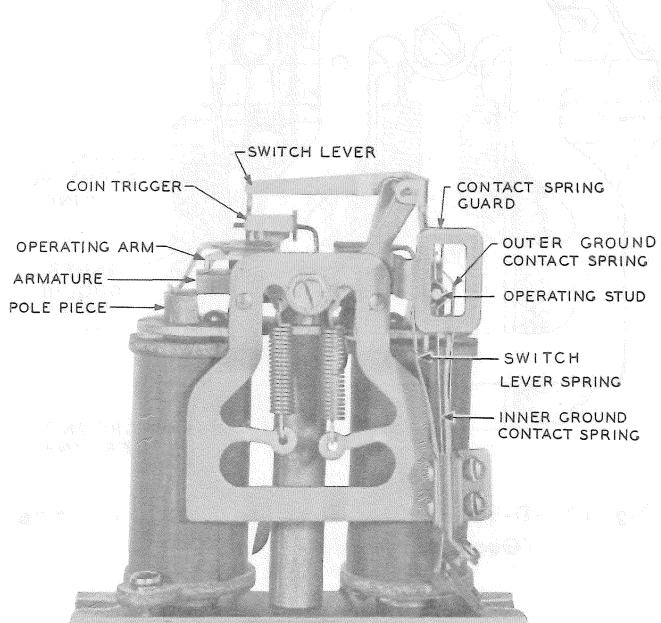

Fig. 53—P-145749, Two-Coil Coin Relay
- 6.107 Refer to Fig. 53 and 54 for component parts.